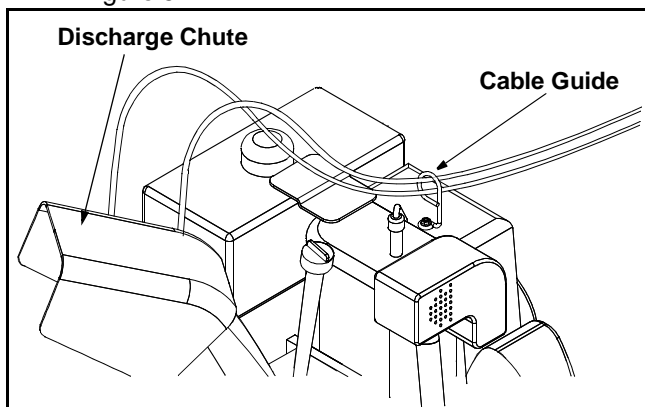

Figure 5
- If not already attached, slip the cables that run from the handle panel to the discharge chute into the cable guide located on top of the engine as shown in Figure 5.